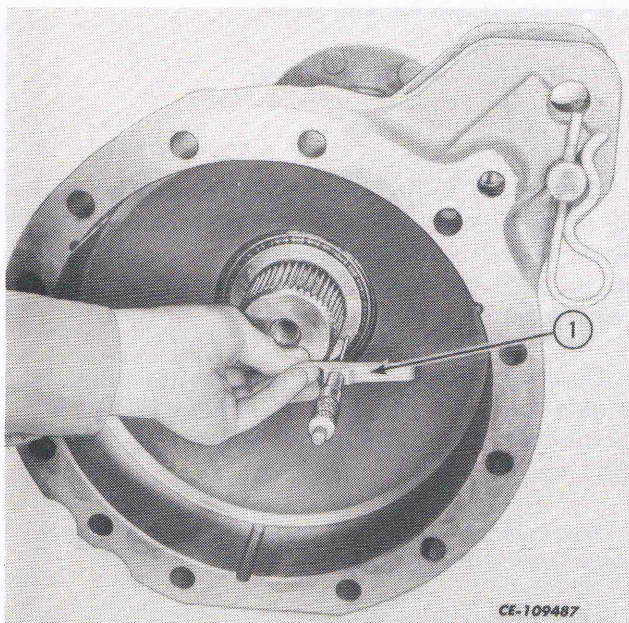

Fig. 13
14. Using a depth micrometer, measure the distance between the end of the axle and the inner bearing cone face as shown in Fig. 13. Record the reading obtained.